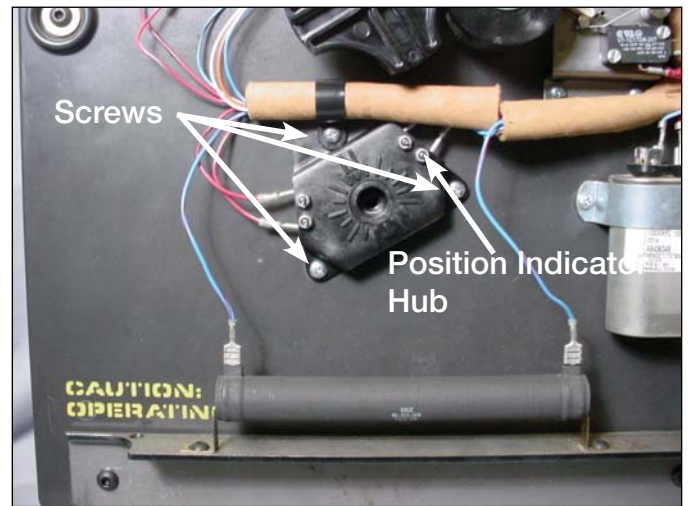

Figure 10.
- Use a Phillips head screwdriver to loosen and remove the three mounting screws fastening the position indicator micro switch hub to the front of the tap changer assembly. See Figure.10.